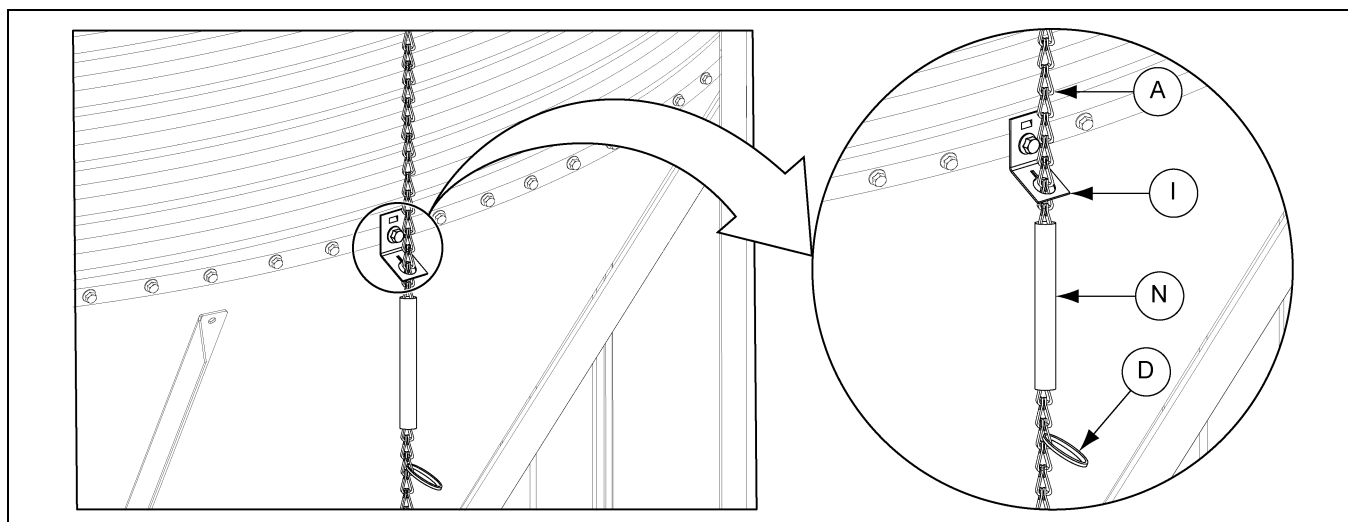

Figure 10P Installing the PVC Handle and Key Ring
8. Install the PVC handle (N) onto the end of the chain (A) and position it for easy access while on the ground.
9. Install a key ring (D) below the handle to keep it in place. (See Figure 10P.)
10. Open and close the lid to test that the key rings (D) allow the cap to fully close but will not allow the chain enough slack to become wrapped around the control arm (E) in a high wind condition.